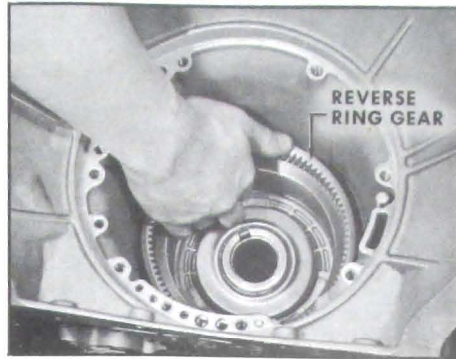

Figure 5-300
2. Install reverse ring gear into case. Rock and turn ring gear to pick up clutch plate splines. See Figure 5-300.